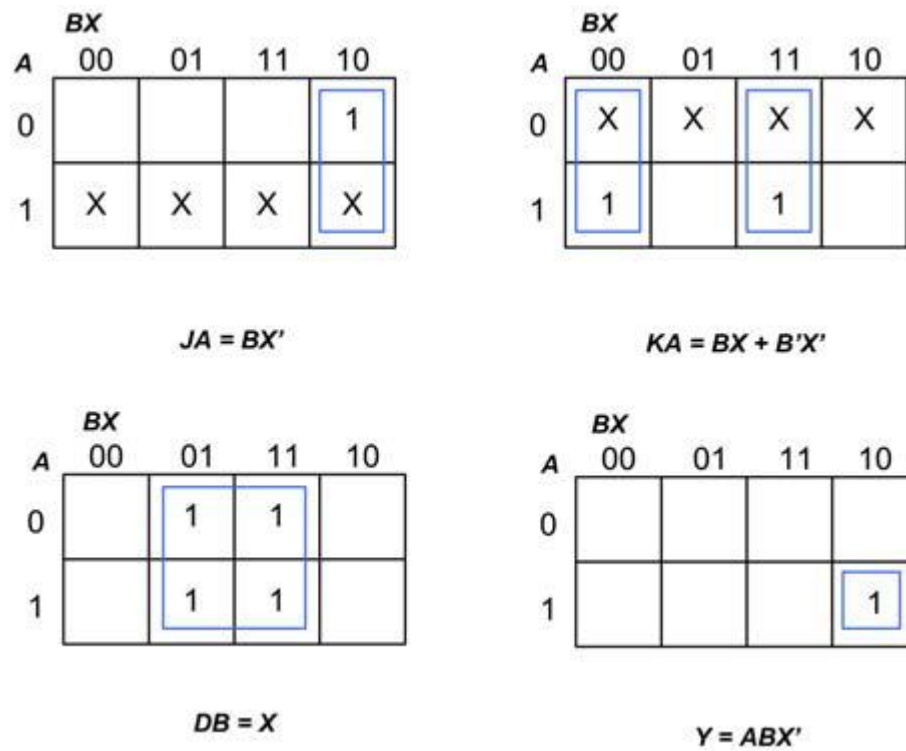

Figure 4: Input Equations of the Sequence Recognizer
- We can simplify flip-flop inputs and output using K-maps as shown in Figure 4.